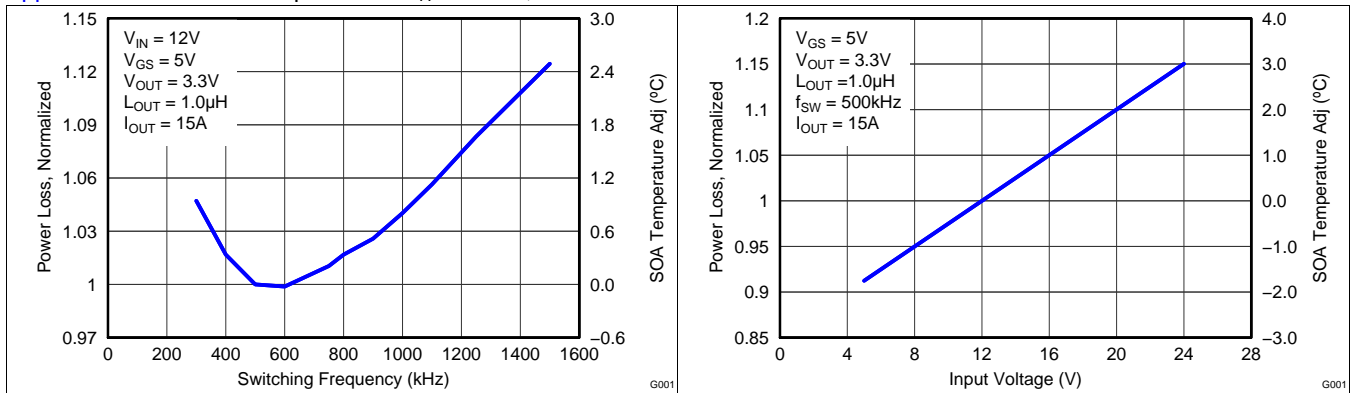

Figure 6. Normalized Power Loss vs Switching Frequency
- Normalized power loss for switching frequency \approx 1.04 (Figure 6)
- SOA adjustment for switching frequency \approx 0.8°C (Figure 6)